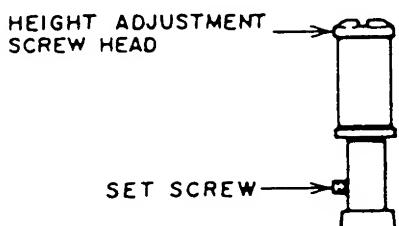

Fig. 4-11
1) Slightly loosen the set screw at the lower part of the LOADING LEADERs (L), (R) so that the LOADING LEADER can be adjusted with reasonable tightness. (Refer Fig.4-11.)